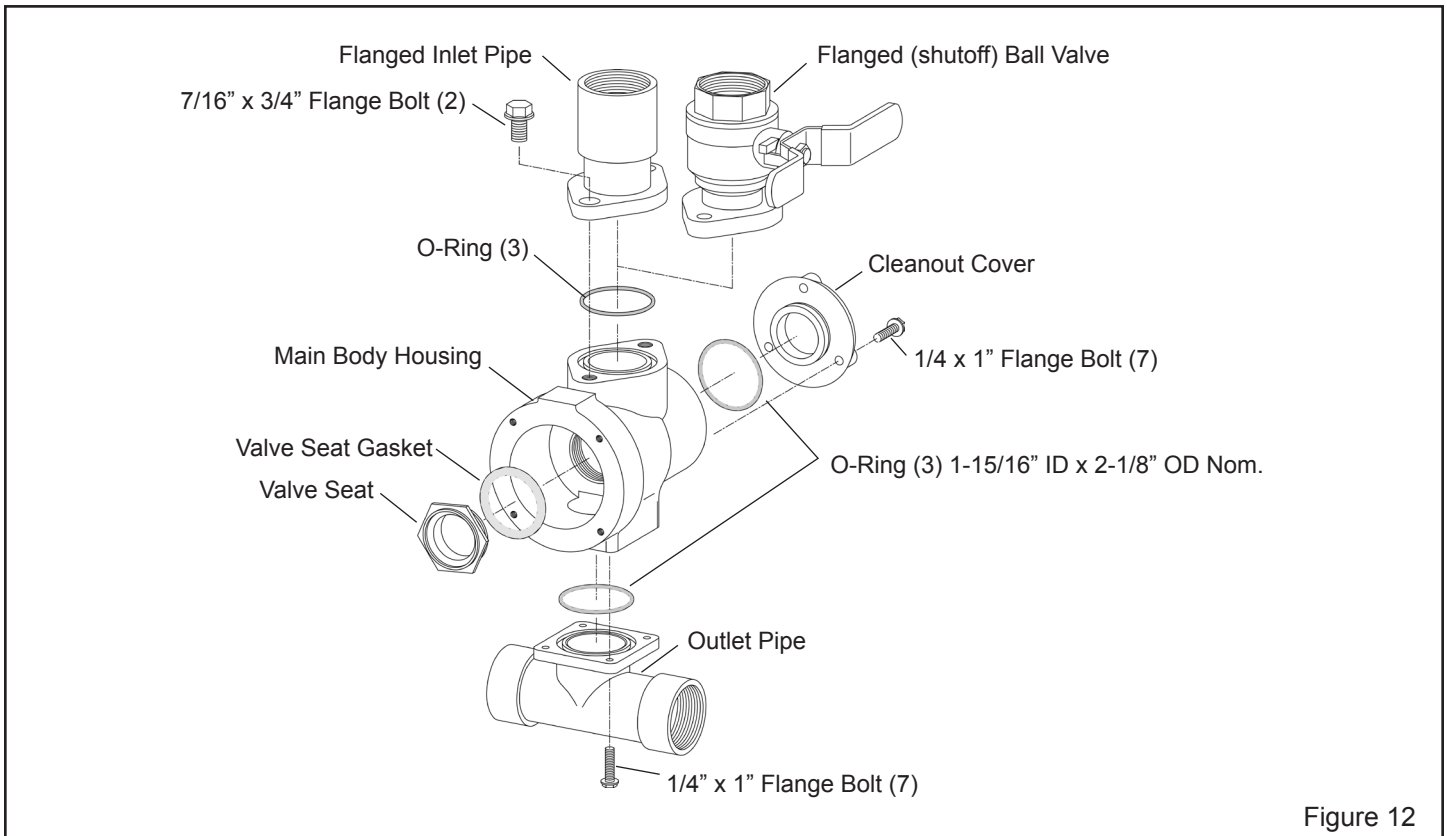

Figure 12
4.6 Main Housing Assembly – Figure 12